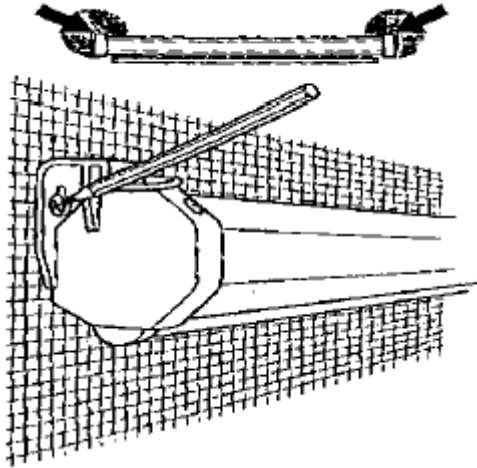

Fig. 1
1. Using a tape measure, mark the keyholes that are located at the back of the screen's case end cap. 2. After marking the area and predrilled hole, insert the screw and leave about 1/8" of an inch from the wall to mount the screen. **Fig. 1**